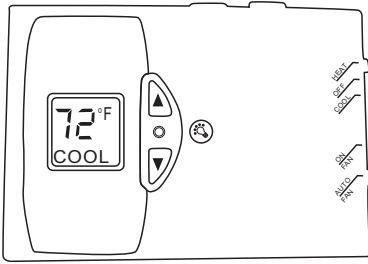

Fig 07. Wall thermostat
- . Push the mode switch to either positions (see Fig. 07) : Cool-off-Heat
- . Push the Fan switch to either positions (see Fig. 07) : On Fan-Auto Fan
- . Press the UP key to increase the temperature, or press the DOWN key to decrease the temperature (see Fig. 07)